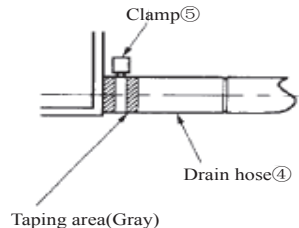

Fig.11
* Use the attached drain hose ④ and clamp ⑤ .
* Insert the drain hose completely into the drain socket. Tighten the clamp within the range of gray tape until the screw head is less than 4mm from the hose. (Refer to Fig.11, Fig.12)